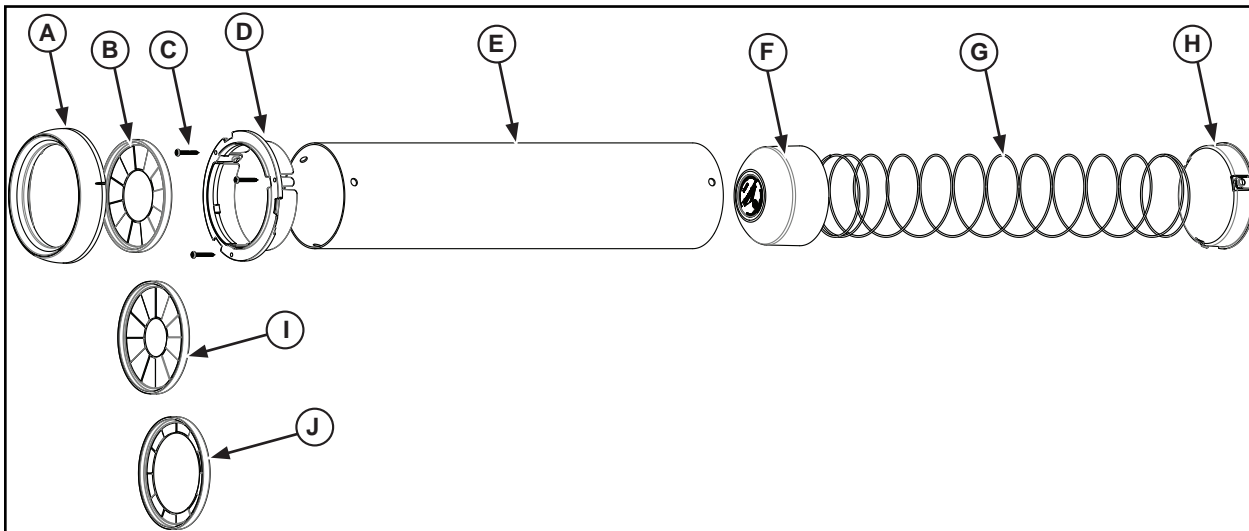
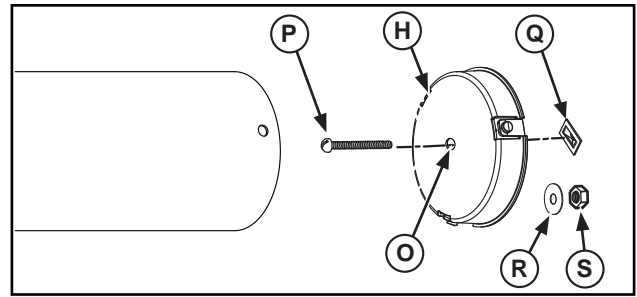

Figure 1. Cup Dispenser Parts
Figure 4. Securing Rear of Dispenser
NOTE: Refer to Figure 1 above for installation procedures.
2. Remove bottom plug (H), spring (G), and push plate (F) from tube (E). See Figure 1.
4. Drill or punch out using #10-24 x 1-3/4" phillips head screw (P) at the bottom center (dimpled) hole (O) in bottom plug (H). See Figure 4.
5. Insert screw (P) through hole in bottom plug (H) as indicated in illustration. Install square nut (Q), securing screw tightly to bottom plug. See Figure 4.
- For In-Counter (Vertical) Mounting - Remove three screws (C) and remove dispenser from mounting location. See Figure 1.
- For Cabinet (Horizontal) Mounting - If supplied mounting hardware is used, remove hex nut (S) and washer (R) from rear of dispenser (See Figure 4). Remove three screws (C) and remove dispenser from mounting location (See Figure 1).